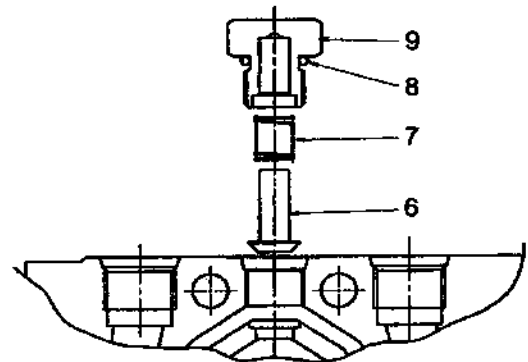

Fig. 2-10 Load check valve
It may be difficult to loosen the plug because O-ring gets caught in the thread. Then,don't force it to loosen, but tighten the plug once again and loosen it again. Take out spring (7), load check valve(6) through the hole used to remove the plug with tweezers or magnet. The numbers in Fig. 2-10 corresponds to the number of the dozer section in Fig. 2-3. The form of the travel, P3 inlet, and boom ORV sections differ, but they can be disassembled by the same procedure.